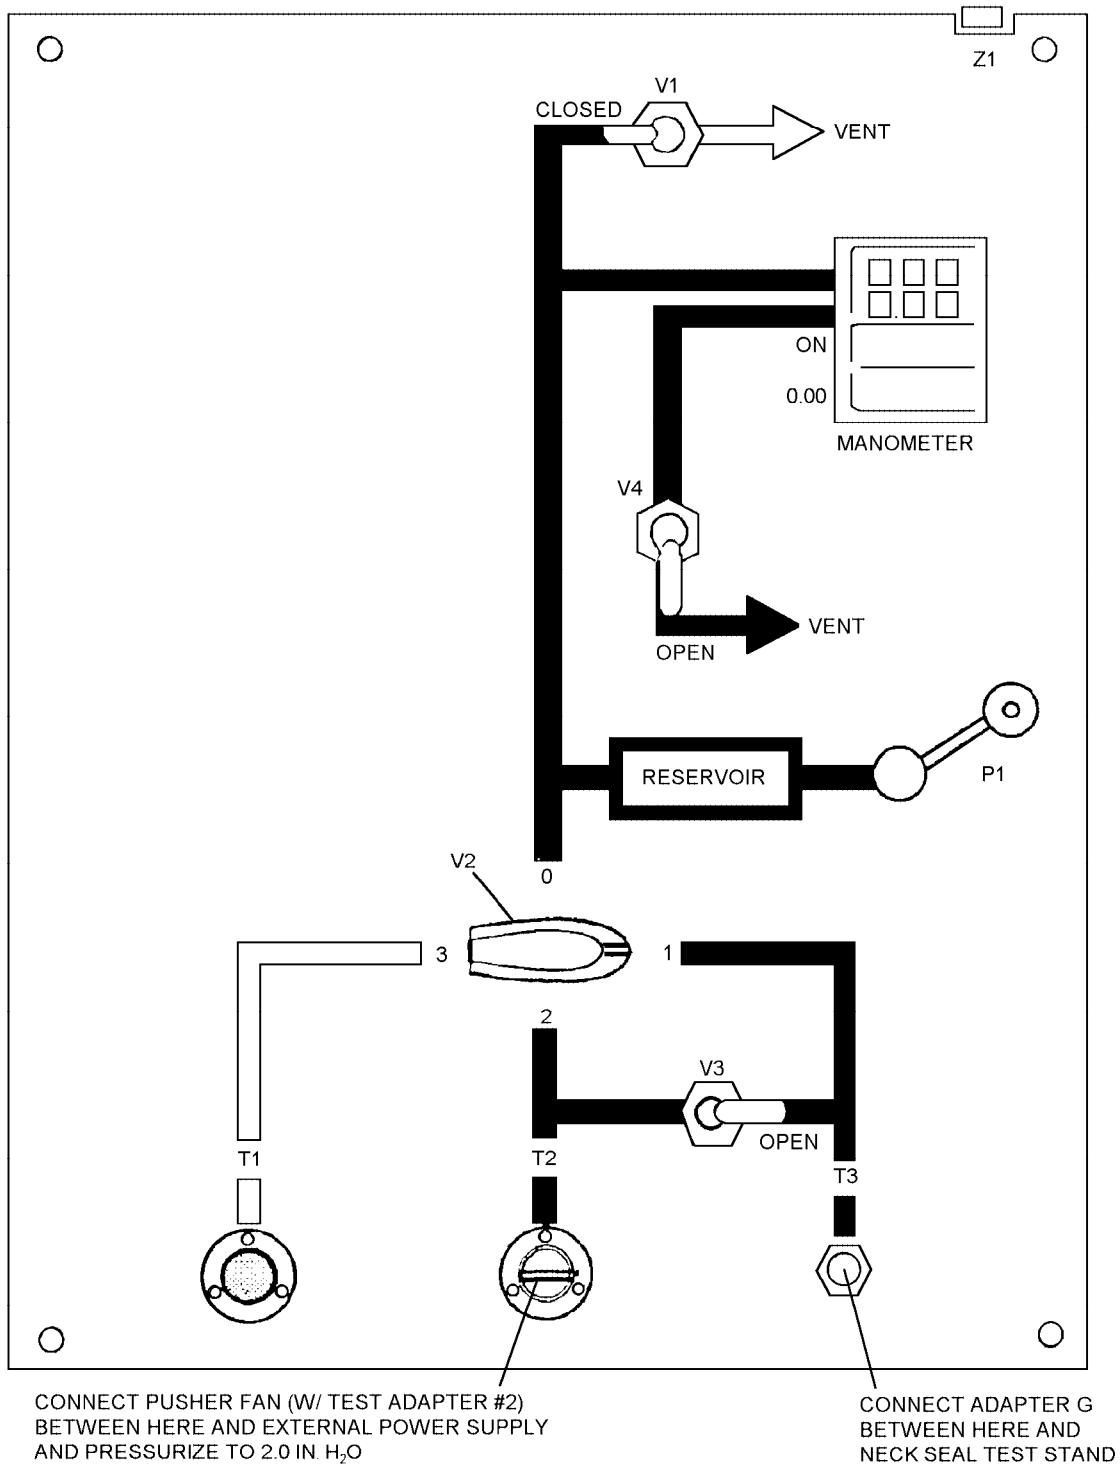

Figure 3-47. Test Panel Configuration - Hood Assembly - Overall Leakage Test
13. Connect test adapter #2 to T2 (figure 3-47).